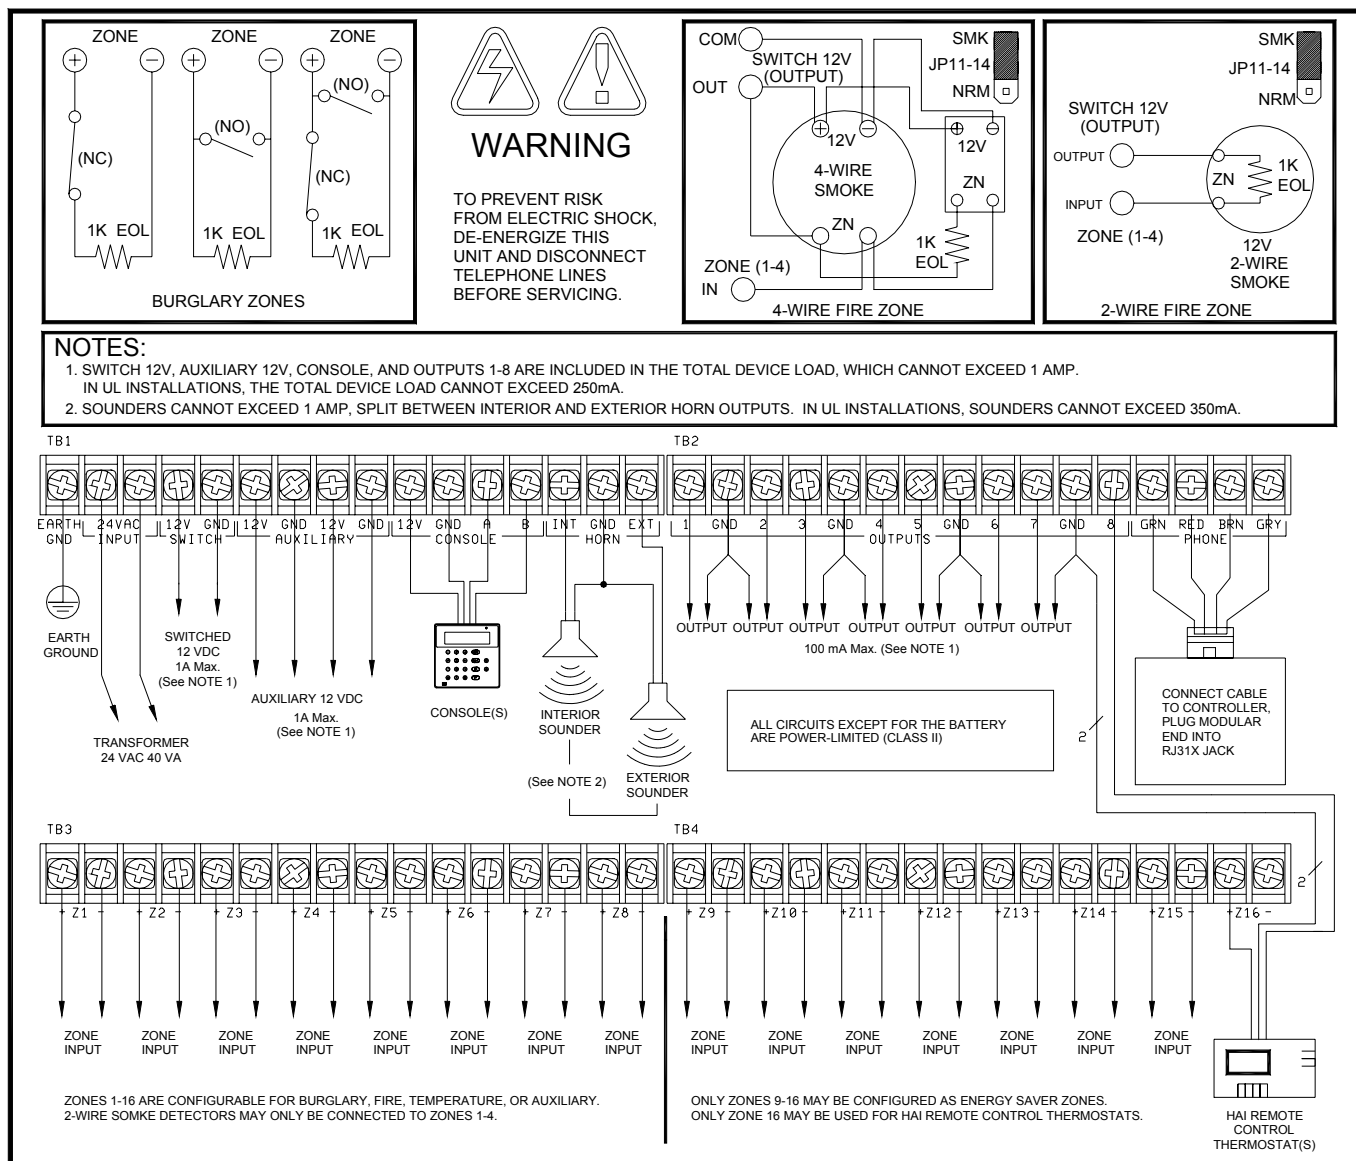

FIGURE 2 - OVERALL CONNECTIONS DIAGRAM
6. See **FIGURE 2 (OVERALL CONNECTIONS DIAGRAM)** for configurations of burglary zones.